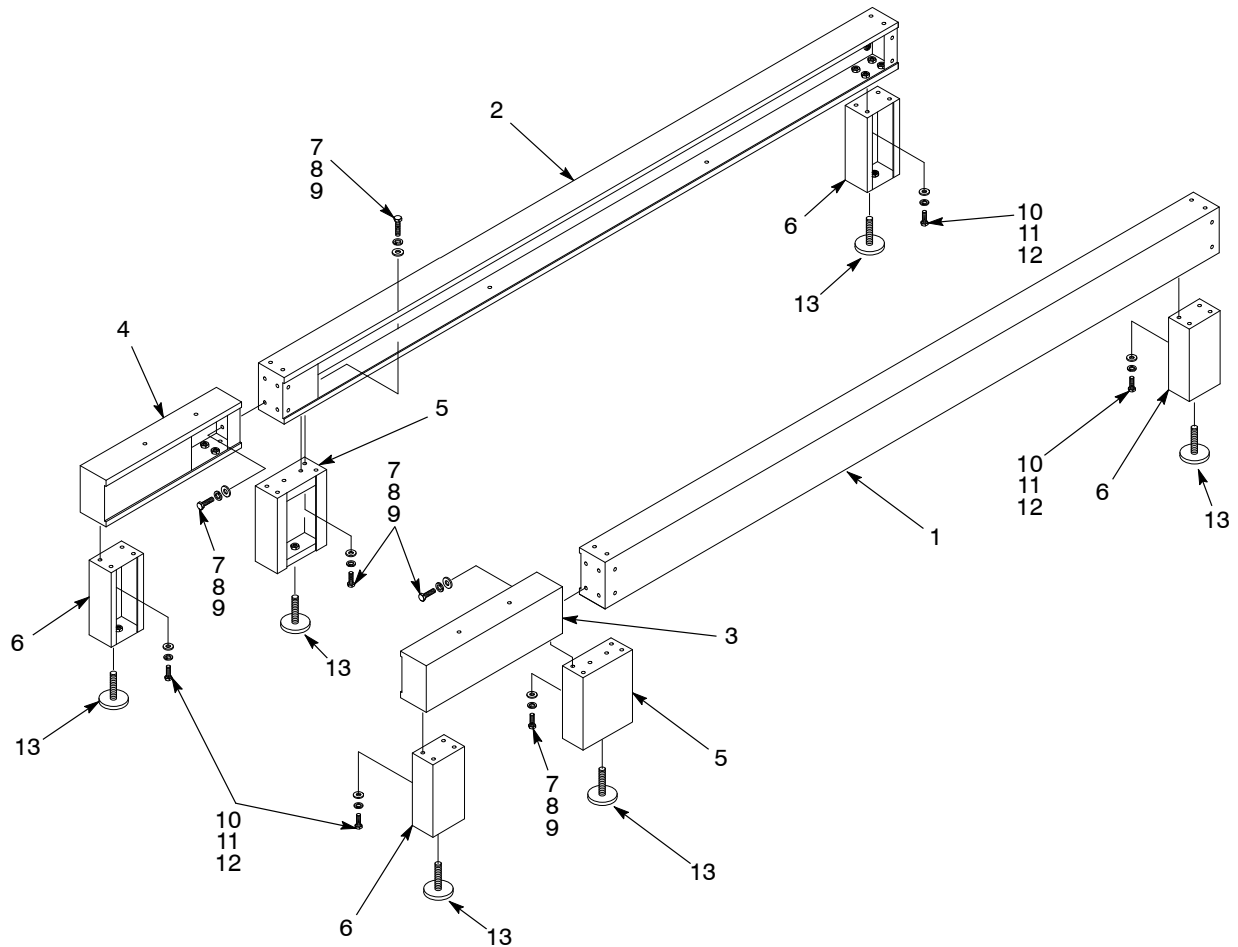

Figure 9-1 Split Support Beam Installation—Fixed Booths
See Figure 9-1.
3. Mount the right and left beam extensions (3, 4) to the end faces of the support beams, oriented as shown in Figure 9-1, with eight  $\frac{1}{2}$ -13 UNC cap screws, lock washers, and flat washers (7, 8, 9).
5. Install the end legs (6) and middle legs (5) to the support beams and beam extensions as follows: